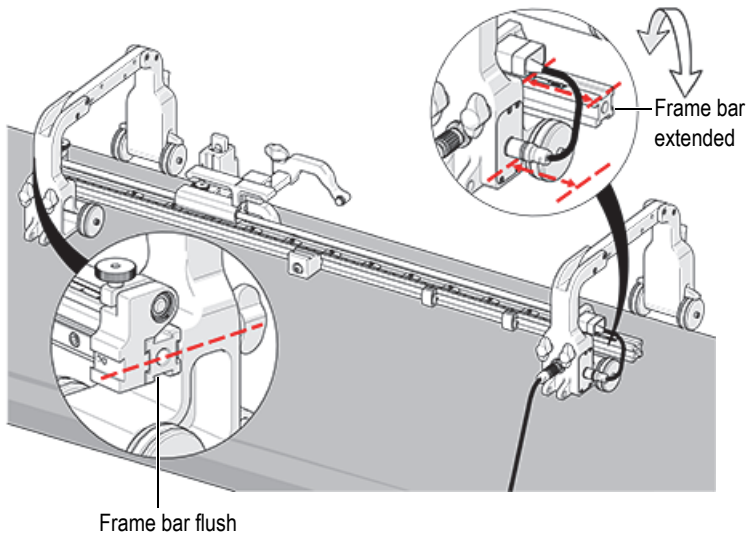

Figure 2-8 Setting the frame bar
5. Ensure that the frame bar extends past the arch on the encoder side (see Figure 2-8 on page 38).